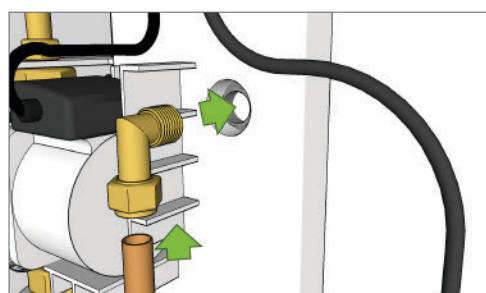

Fig 6
5. Connect the incoming cold water line to the cold water tank connection (Fig 6) ensuring that the connecting pipe is directed downward with sufficient allowance for the pump station cover to be fitted